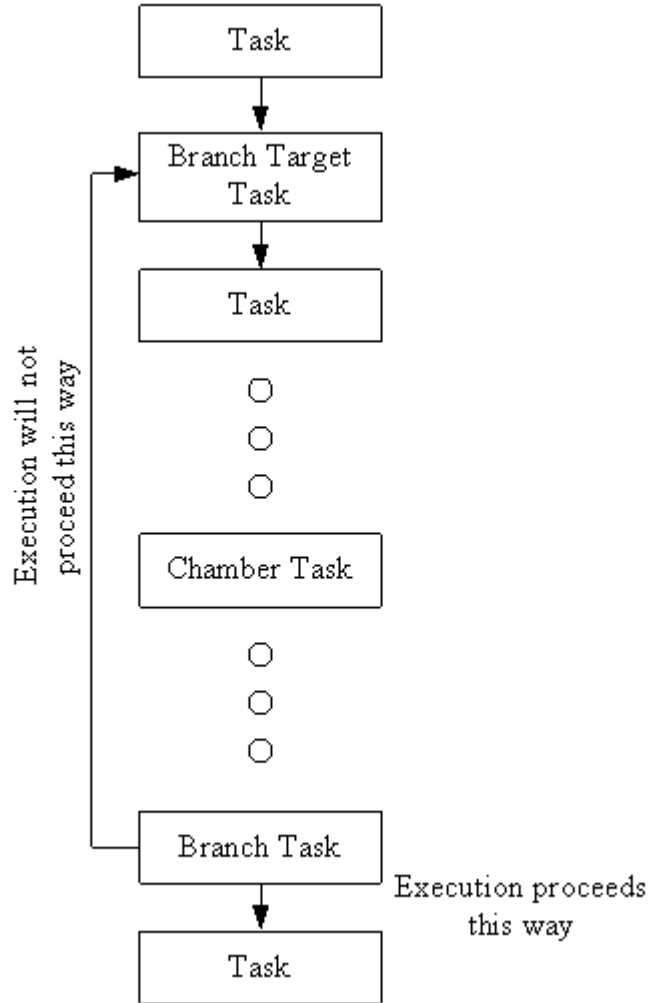

Figure D.7.2. Branch Loop Abort Resulting from Chamber Task Abort.
2. In any operation mode, the *Abort* button of the Soak Time progress dialog can be clicked. This immediately terminates the Soak Time. A measurement is made and plotted, then the Task terminates. If the Task is programmed into a Branch Loop in the Test Definition, this button will also set the Branch Abort flag. In this case, the Test Definition will continue executing Tasks up to the Branch Task, but the Branch Task will not return execution to its Branch Target (will not loop) regardless of the Branch Logic Condition. The situation is shown in **Figure D.7.2**.